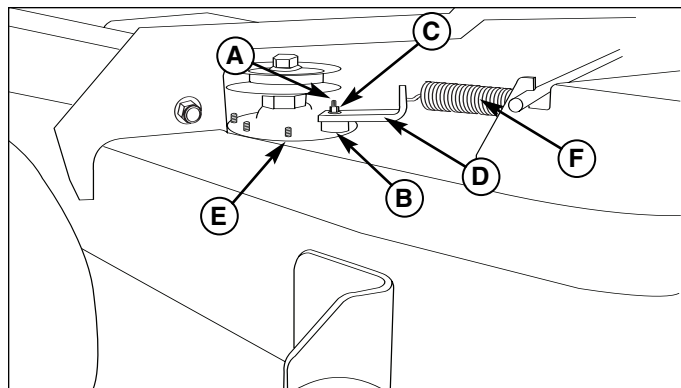

**Figure 2. Release Belt Tension**
3. Pull the belt tension release lever (A, Figure 2) towards the rear of the machine to release tension on the mower belt. Secure the lever in the guard notch (B) and remove the mower belt from the PTO pulley (C, Figure 1).
7. Remove the mower belt. Remove the belt tension release lever (A, Figure 2) from the guard notch to release the tension on the spring.
13. Pull the lever (A, Figure 2) towards the rear of the machine. Secure the lever in the guard notch (B).